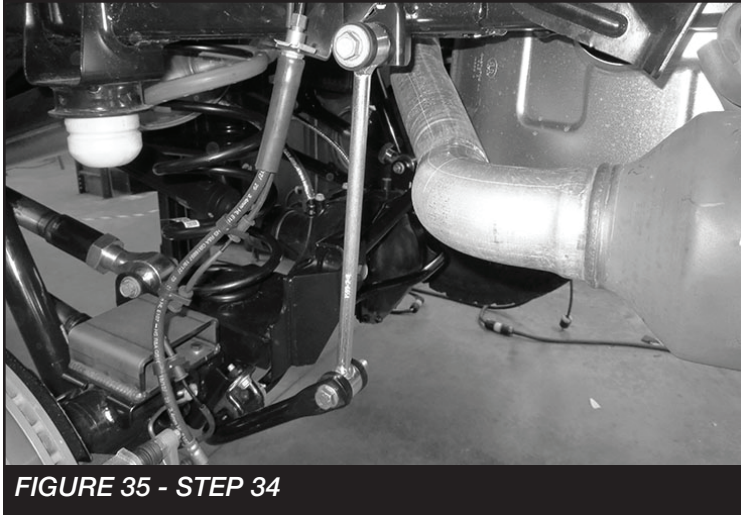

FIGURE 35 - STEP 34
34. Install the FT1004 (Half bushings) and FT404739 (Sleeves) into FT1599-2-4 (Rear sway bar links). Then, install the new links to the sway bar and sway bar mount on the frame using supplied M12 x 70mm bolt and large O.D. washer for the upper location and M12 x 70mm bolt regular washer, large O.D. washer and nut for the lower. Use the larger washer on the nut side. **NOTE: The new end link will need to be installed on the inside of the sway bar and axle mount.** Torque to 65 ft-lbs **SEE FIGURE 35**